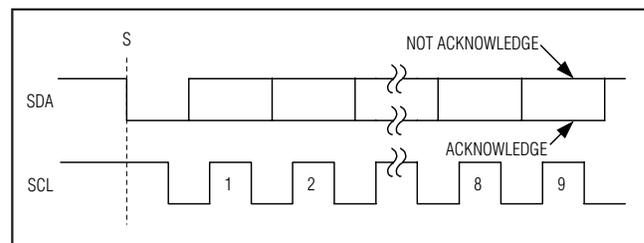

Figure 6. Acknowledge Bits
Data transfers are acknowledged with an acknowledge bit (A) or a not-acknowledge bit (\bar{A}). Both the master and the MAX11612–MAX11617 (slave) generate acknowledge bits. To generate an acknowledge, the receiving device must pull SDA low before the rising edge of the acknowledge-related clock pulse (ninth pulse) and keep it low during the high period of the clock pulse (Figure 6). To generate a not-acknowledge, the receiver allows SDA to be pulled high before the rising edge of the acknowledge-related clock pulse and leaves SDA high during the high period of the clock pulse. Monitoring the acknowledge bits allows for detection of unsuccessful data transfers. An unsuccessful data transfer happens if a receiving device is busy or if a system fault has occurred. In the event of an unsuccessful data transfer, the bus master should reattempt communication at a later time.